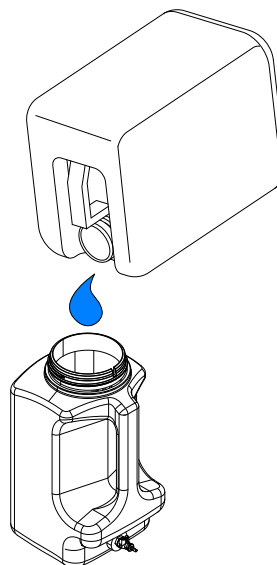

Figure 25. Fill reagent container
6. Fill the reagent container with the MQC-C reagent solution (see figure 25 on page 5-12).